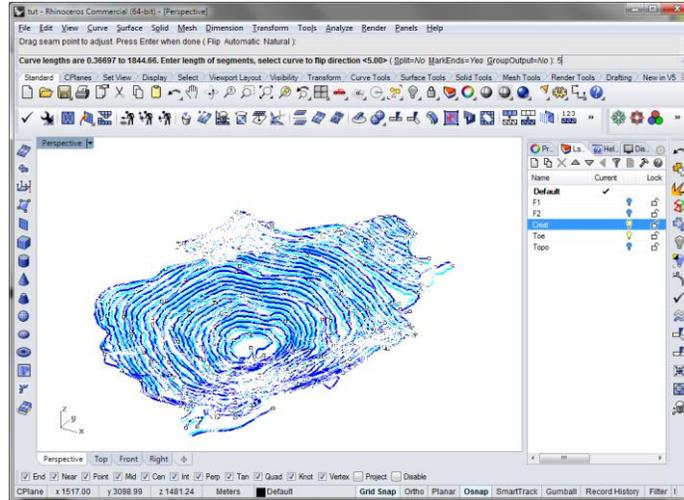

Figure 139: Dividing curves into equal length segments.
1. **Double-click** the **Perspective** label to maximize the Perspective view. **<CTRL> A** to select all the visible contour lines. **Curve|Point Object|Divide Curve by|Length of Segments**, followed by **<ENTER>**, and set the **length of segments** to **5** (Figure 139).